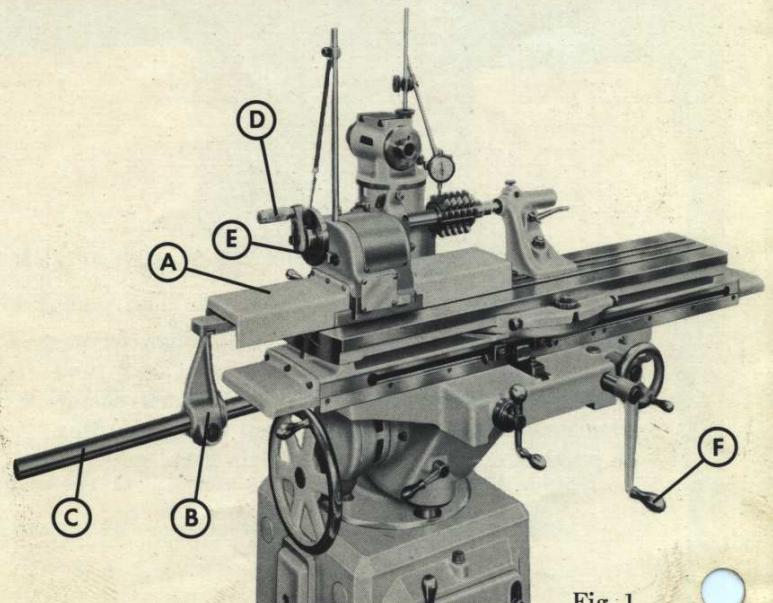

Fig. 1
Mount the hob on an arbor and place between centers as shown in Fig. 1. Set the indexing handle (D) so that the plunger will drop in the appropriate hole in the index plate (E), corresponding to the number of rows of teeth on the hob. (Note that this plate is drilled on both sides.)
Place an indicator on the wheel head as shown in Fig. 1, set so that it is just above one of the teeth.